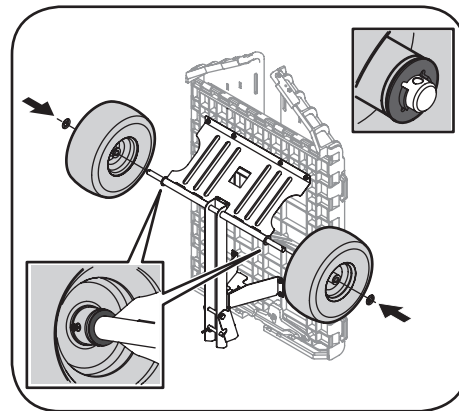

Figure 3-3
4. Slide the inner flat washer from the hardware pack, the tire and outer flanged washer from the hardware pack onto the axle as shown in Figure 3-3. Make sure the valve stem on the tire rim is facing outward.